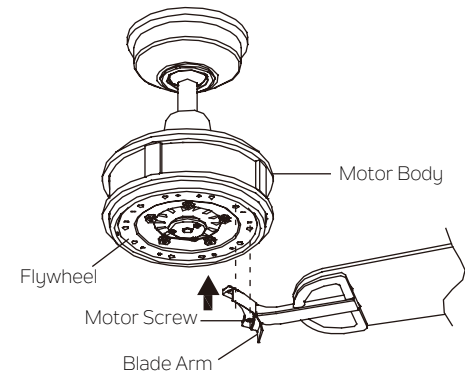

Fig. 20
Step 2. Fasten blade assembly to the holes located on the bottom of the flywheel. Tighten the two "pre-installed" motor screws in the blade arm. Repeat steps for the remaining blades assemblies. (Fig. 20)